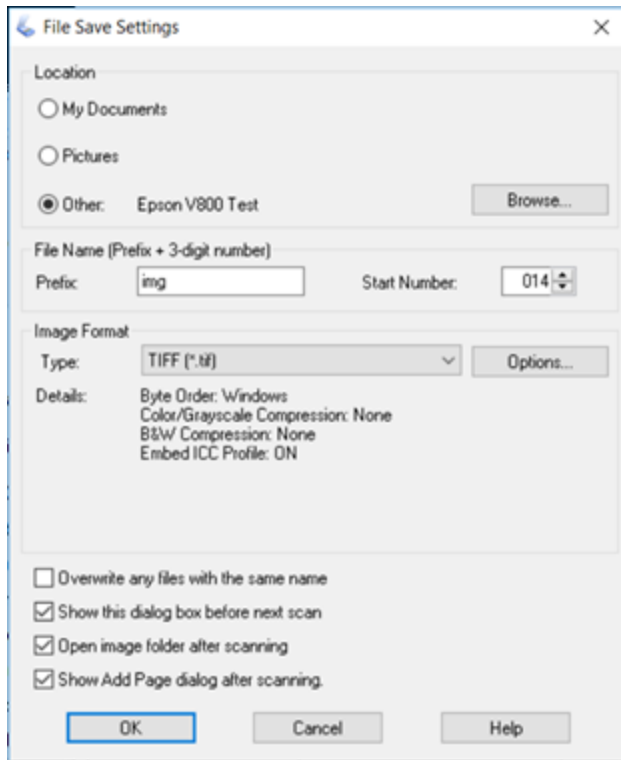

Figure 1-6 High resolution scan in Scan Image Tab
15. Use the settings shown in Figure 1-6.